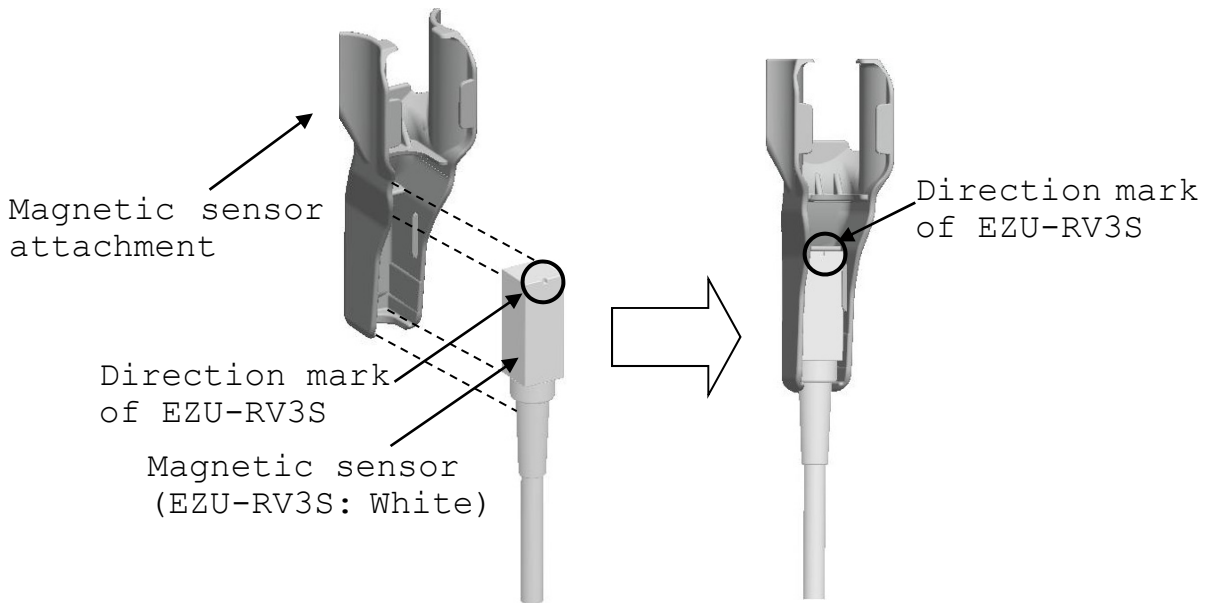

Fig.9 How to attach the Magnetic sensor
a) Insert Magnetic sensor into the Magnetic sensor attachment with the correct direction as shown in Fig.9.